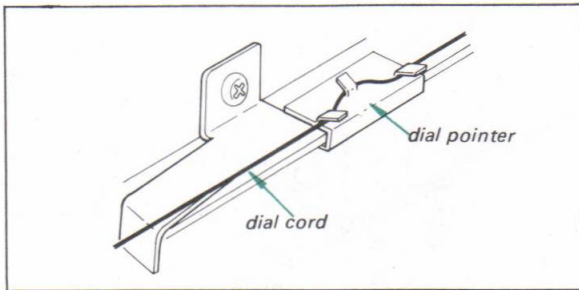

Fig 2-7. Dial pointer installation
- Put the dial pointer on the cord as shown in Fig. 2-7, and tune the set to the local fm station. Move the dial pointer to the position where the dial indication coincide with the local station carrier frequency.